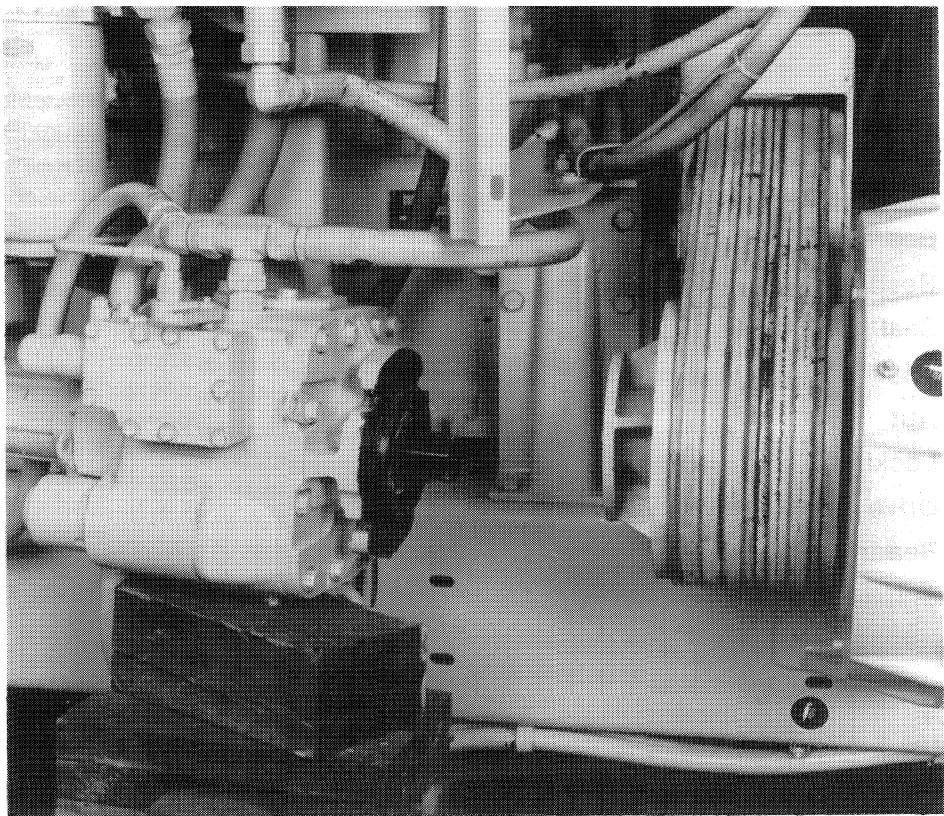

FIGURE 1-20
4. Align the sheaves by shifting the assembly in the slotted mounting holes. Reinstall the belts as shown in Figure 1-20.